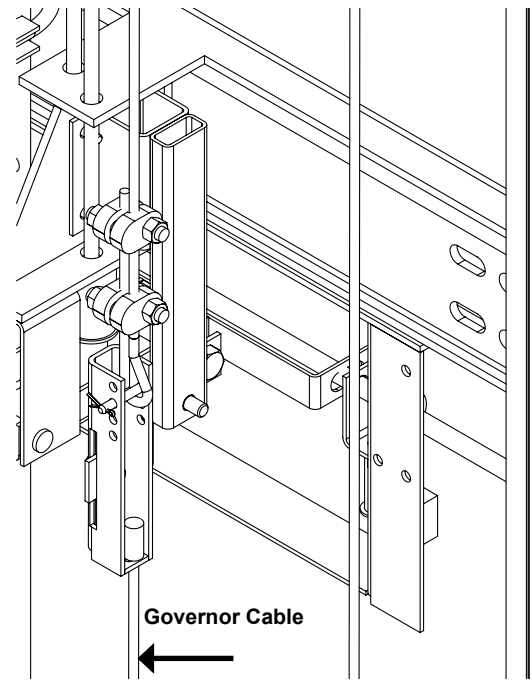

**Figure 63** Cable Tensioner Assembly
- 6) Locate the cable tensioner assembly and remove the pulley. Refer to Figure 63.
- 7) Attach the tensioning bar (complete with weight), to the pulley bracket (located in pit channel) using the  $\frac{3}{8}$ " (9 mm) shoulder bolt supplied. Re-attach the pulley (refer to the bottom half of Figure 63 below).